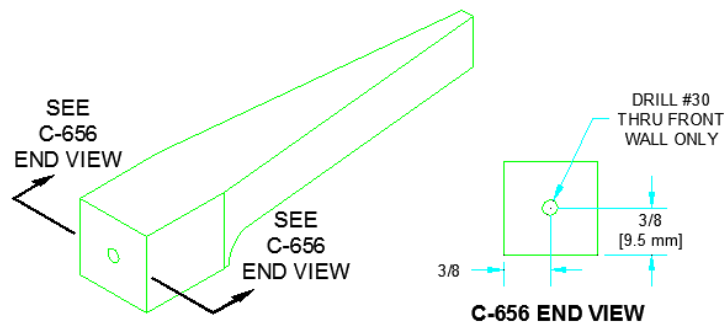

FIGURE 2: PILOT DRILL CANOPY HANDLE
Step 3: Drill a pilot hole in the end of the C-656 Canopy Handle as shown in Figure 2. Be sure to drill perpendicular to the face of the Canopy Handle.